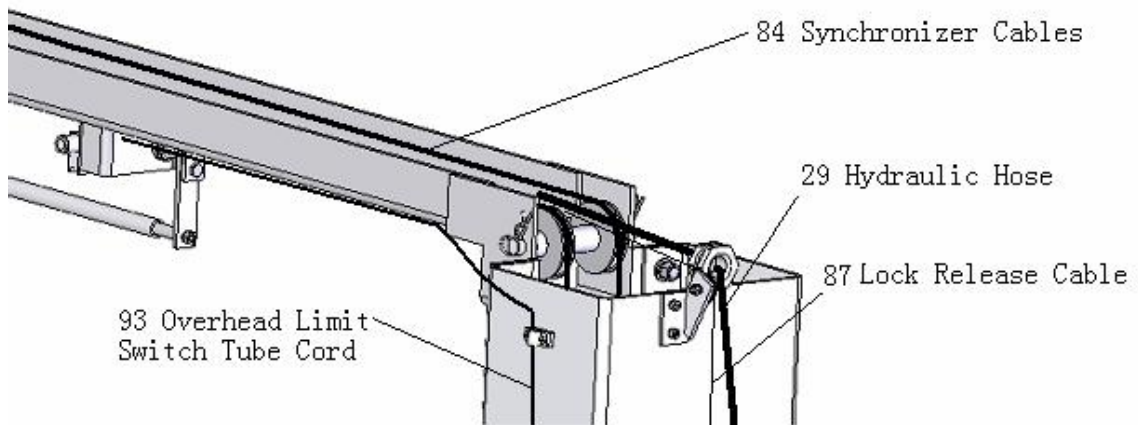

Fig 6
21. Thread power unit hydraulic hose into elbow on power unit. Route hydraulic hose from Idler column across Overhead to the Power Column.(Fig 6)